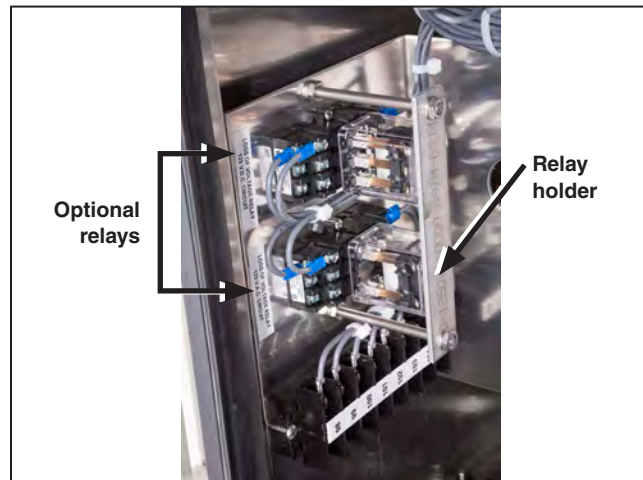

Figure 28. Ice cube-style relays and relay holder.
- That any optional “ice cube” style relays (used for catalog option “-P” and “-T2”) are fully seated. See Figure 28.